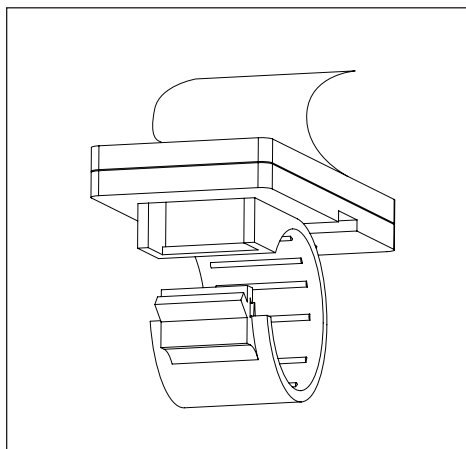

Figure 1.7
7. Use cord clips to secure the fan's power cord in a path toward the power outlet. Peel the backing off of the double-sided tape preassembled to back side of each cord clip (Figure 1.7).